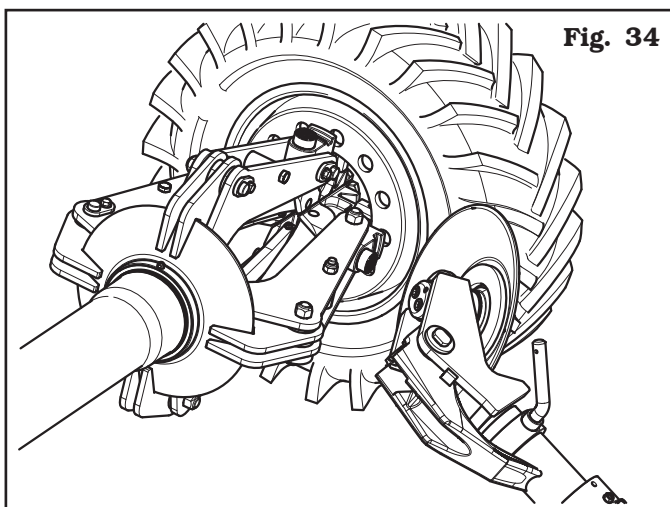

Fig. 34
- Position the bead breaker disc on rim edge (see Fig. 34).